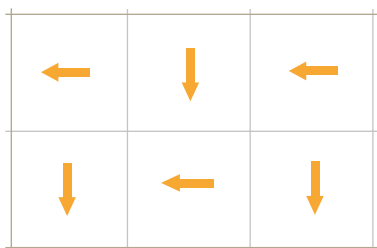

Figure 13: The squares are installed with changing fiber direction.
- ! Dinesen recommends laying the individual squares in a Squares floor with alternating fibre direction by rotating each square in a row 90 degrees in relation to the previous square in the same row and to the adjacent square. See Figure 13.